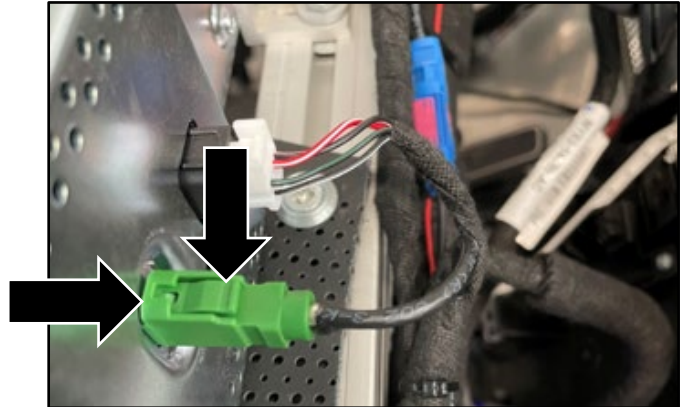

Figure 4
6. Disconnect the electrical connector for the display screen (refer to Figure 4).